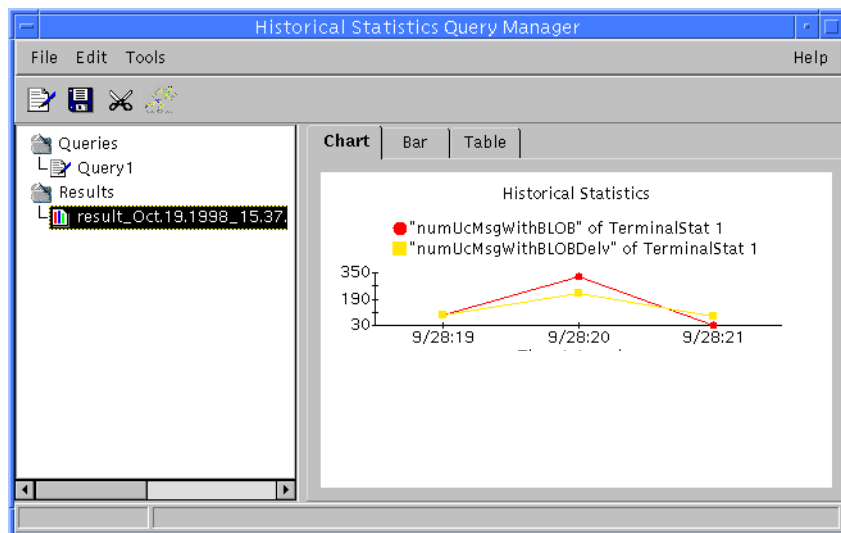
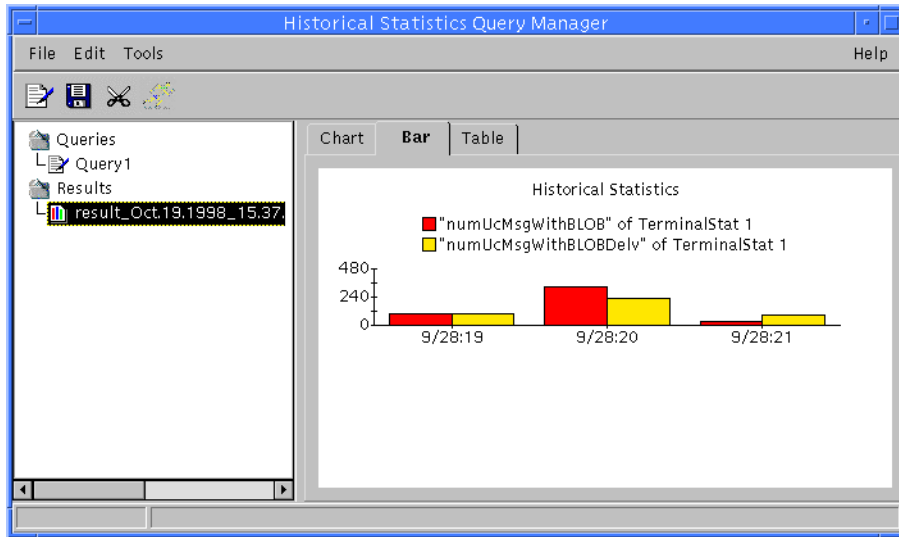

Figure 7-14: Displaying Query Results in a Line Graph
Figure 7-15: Displaying Query Results in a Bar Graph
9. The query results appear in chart (see Figure 7-14), bar graph (see Figure 7-15), or table (see Figure 7-16) format after the **Execute** is completed. For reporting or archiving the results, you can also print or save the results. To view the different formats, select the view you desire from the available tabs.
The following examples illustrate three ways of displaying results of your queries -- line graph (see Figure 7-14), bar graph (see Figure 7-15), and table (see Figure 7-16). You can change to the different views by selecting the appropriate tab.